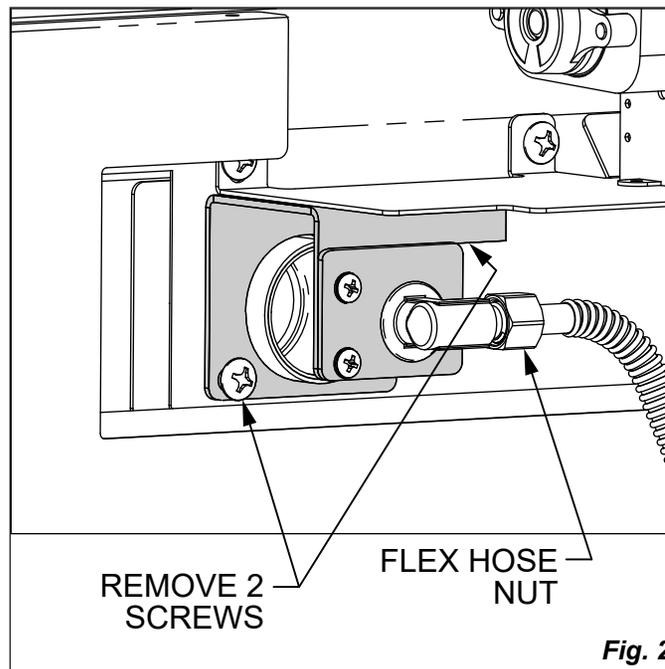

Fig. 2
2. Adjacent to the cooling fan, you will see the flex hose which supplies the upper broiler. Disconnect this hose while avoiding bending the hose unnecessarily. Remove the 2 screws and remove the entire bracket with brass elbow and orifice attached. (Fig. 2)